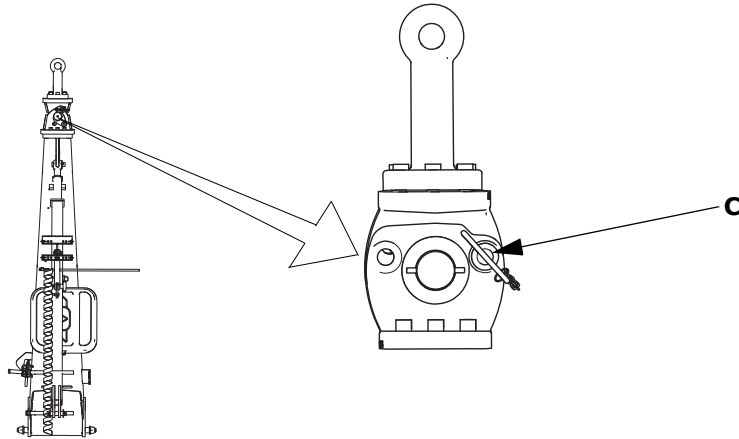

Figure 1.19 Drawbar in position 2, for drilling grain and for transport
- 5 Fasten the pin (C) as in "Figure 1.19".